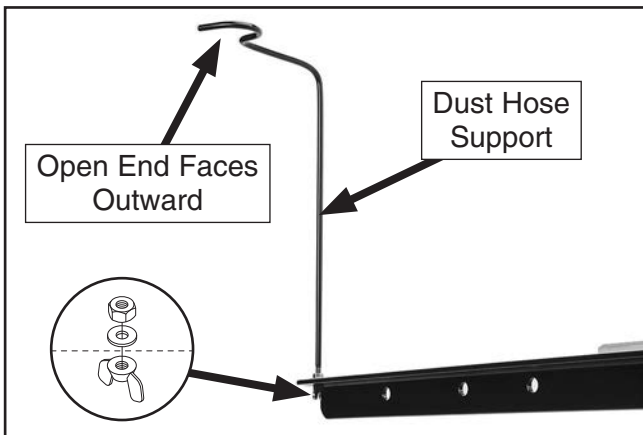

Figure 30. Dust hose support installed.
24. Attach dust hose support to rear rail with (1) M6-1 hex nut, 6mm flat washer, and M6-1 wing nut, as shown in **Figure 30**, so open end of hook faces outward.